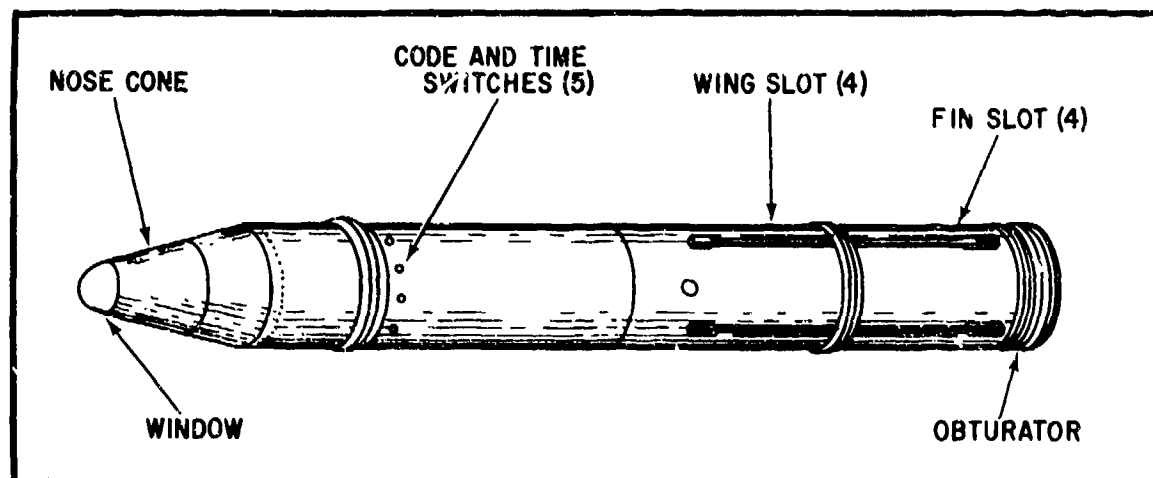

Figure 11-43. M712 Copperhead projectile.
(4) *M712 cannon-launched guided projectile.* The M712 COPPERHEAD is a cannon-launched guided projectile (CLGP) antitank round that has the capability of homing in on its target after being fired by the cannon crew (fig 11-43). This round is loaded and fired the same as any other standard 155-mm projectile except that it is much longer (54 inches) and is fin-stabilized instead of spin-stabilized. The fins/wings, folded into recesses in the projectile, are extended in flight after the round clears the tube. The cannon crew will not have to install a fuze because the fuze is already assembled within the projectile. The cannoneers will have to set the fuze for time and a three-digit code. After firing the projectile, the forward observer must be directed to laser his target during the latter phase of the terminal portion of the trajectory so that the homing device, located in the plastic nose of this projectile, can pick up the reflected beam and home in on its target. This type of a round has been fired successfully at White Sands Proving Grounds. The tests at White Sands included a ground laser locator designator, a laser designator in a remotely piloted plane, and a laser designator operating from a helicopter.